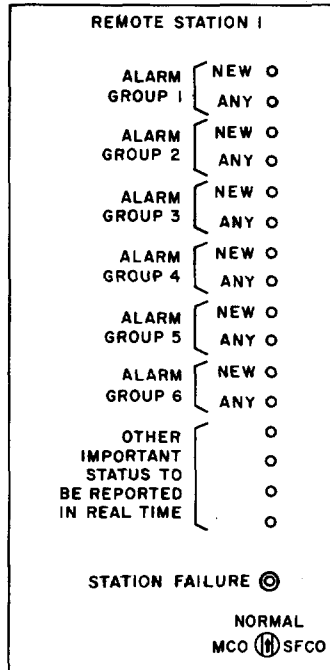

Fig. 7—Alarm Display Typical Lamp Assignment
2.03 The lamps on the alarm display panel may represent individual status indications or alarm groups. If alarm grouping is used, a number of status indications at a remote station are combined to give two common indications. One of these indicates whether one or more of the status indications within an alarm group are in the abnormal state ("any" alarm). The other indicates when any one of these indications changes from the normal to the abnormal state ("new" alarm). This provides the central with an indication when any of the alarms are present and when a new alarm occurs. A typical alarm lamp assignment for a remote station is shown in Fig. 7.
2.04 Assuming that an alarm condition is associated with the major alarm relay and the lamp assignment shown in Fig. 7 is used, the following